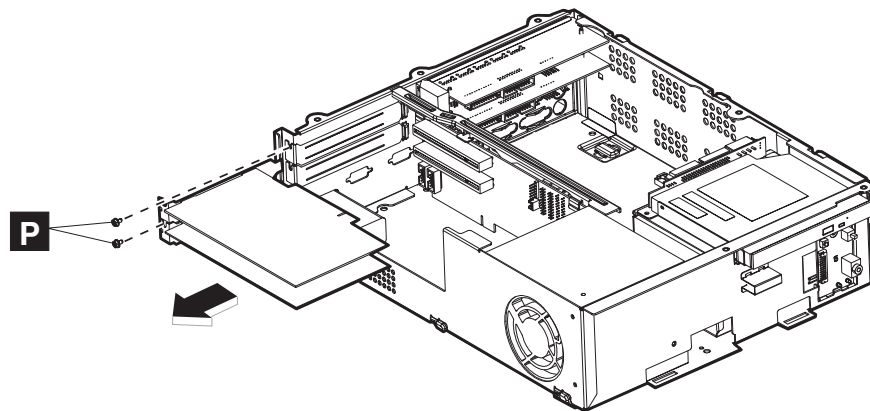

Figure 38. Removing feature cards
3. See Figure 38 to locate any installed feature cards and retaining screws (**P**). Remove the screws and pull outward to remove the feature card.